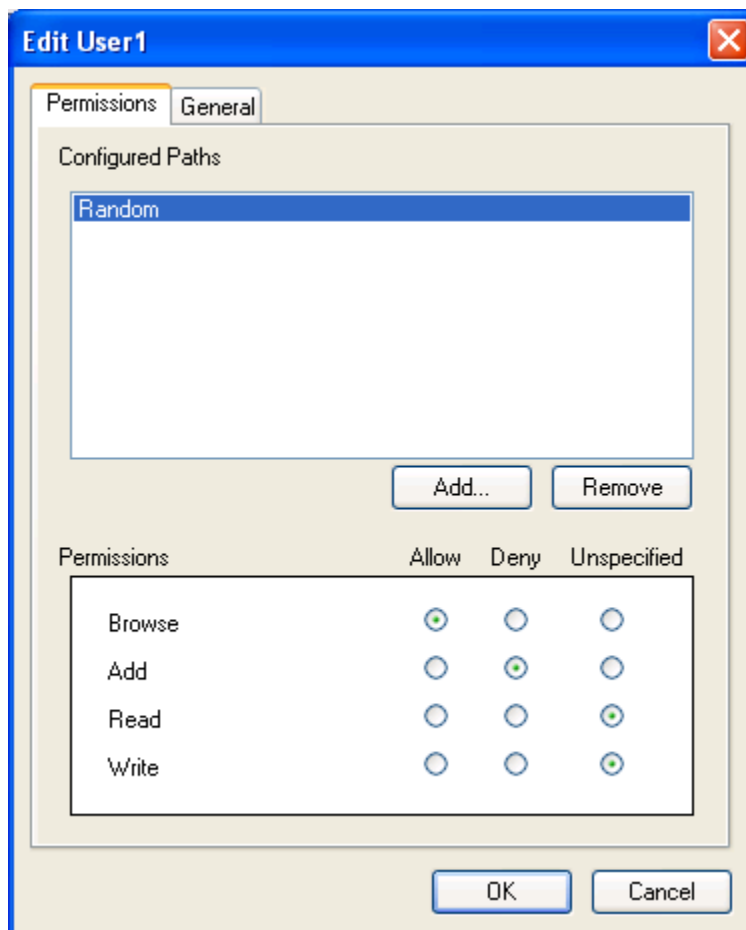

Figure 87 - Edit <Username>: Example
5. The selected path or item will be listed in the **Configured Paths** screen section of the **Edit User** window. Permissions can now be assigned, as in the example depicted in Figure 87.